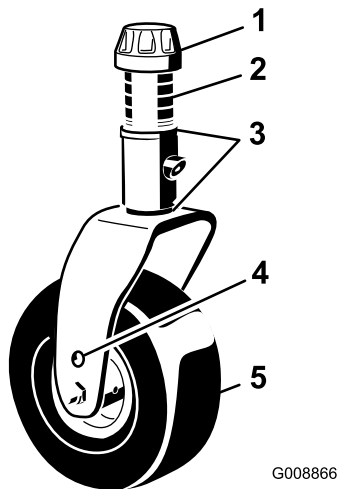

Figure 30
3. Adjust the shims (3 mm or 1/8 inch) on the front caster fork(s) to match the height-of-cut decal (Figure 30); refer to Adjusting the Height of Cut (page 26).